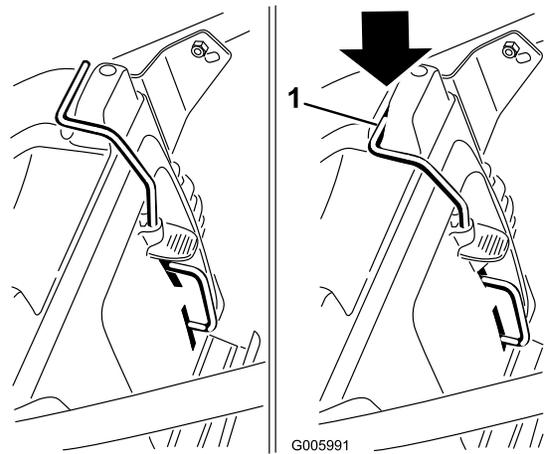
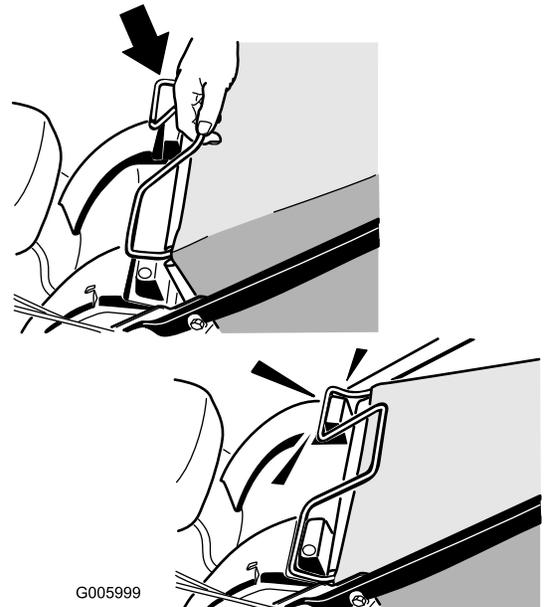

Figure 17
Figure 18
1. Install the recycle plug (Figure 17) or the grass bag (Figure 18) on the mower.